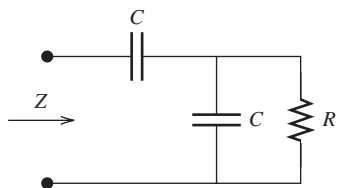

FIGURE P6.29 Circuit for Problem 6.29.
- 6.29 (H) What is the angular rate, ω , for the circuit in Figure P6.29, if the total impedance is $48.4125 - j137.5 \Omega$, the resistance R is 77.46Ω , and capacitance C is $50 \mu\text{F}$?